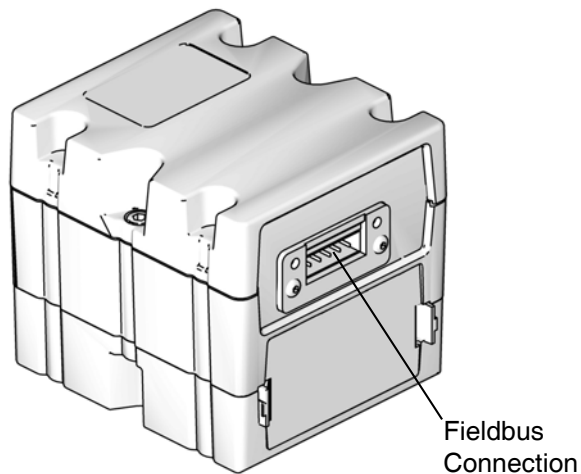

Fig. 67: CGM Fieldbus Connection
12. Connect the EtherNet/IP, DeviceNet, or PROFIBUS cable to the fieldbus connection on the CGM as applicable. See Fig. 67.